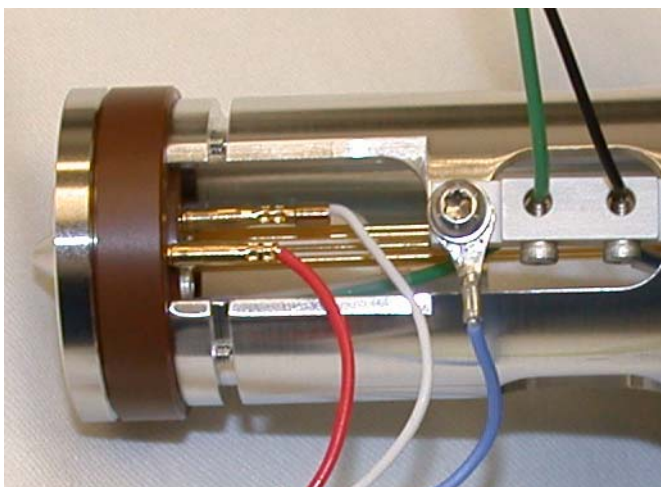

Figure 63 Lens 1 and Lens 2 wires
- 9 Disconnect wiring harness and connections (Figure 63). The red wire is for lens 2 and the white wire is for lens 1.